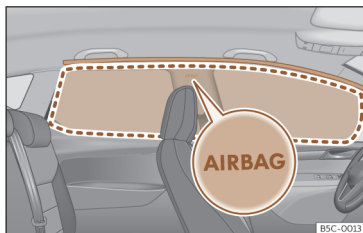

Fig. 34 Location of head-protection airbags.
>>> **Fig. 34** and their location is indicated with the word “AIRBAG”.
The framed area is covered by the head-protection airbag when it is deployed (deployment area) >>> **Fig. 34**. Therefore, objects should never be placed or mounted in this area >>> ⚠.
- Ensure that children are correctly seated in their seats and that their heads are not in the deployment zone of the head airbags >>> **Fig. 34**, as deploying airbags could hit them and cause serious injury.